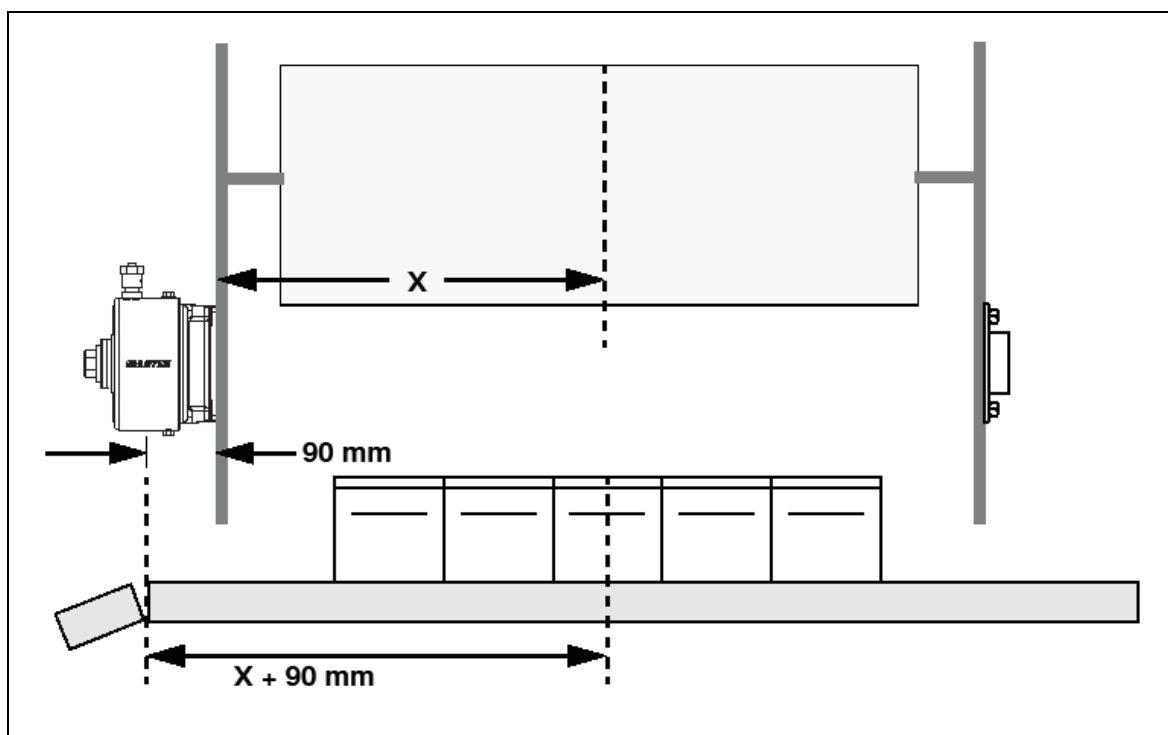

Fig. 2: Shortening the mainframe
4. Bolt or weld the coupling housing (16) or the flange bracket (3) to the chute walls.
- For bolting, drill a  $\text{Ø}100$  mm hole and four  $\text{Ø}14$  mm ones for the bolts on both sides of the enclosure (see Fig. 2). Bolt the coupling housing (16) or the flange bracket (3) to both sides of the enclosure.
- For welding, drill a  $\text{Ø}100$  mm hole for the mainframe on both sides+ of the enclosure. Position the coupling housing (16) or the flange bracket (3) above the hole you drilled before and weld it on.
5. On the operator side, push the adjusting ring (15) and the nylon bushing (14) into the coupling housing (16).
6. Push the tensioning housing (17) over the coupling housing (16) and bolt it.
7. With dual tensioners, you must repeat steps 5 and 6 on the opposite side; otherwise, push the shock absorber (4) and the nylon bushing (5) into the flange bracket (3).